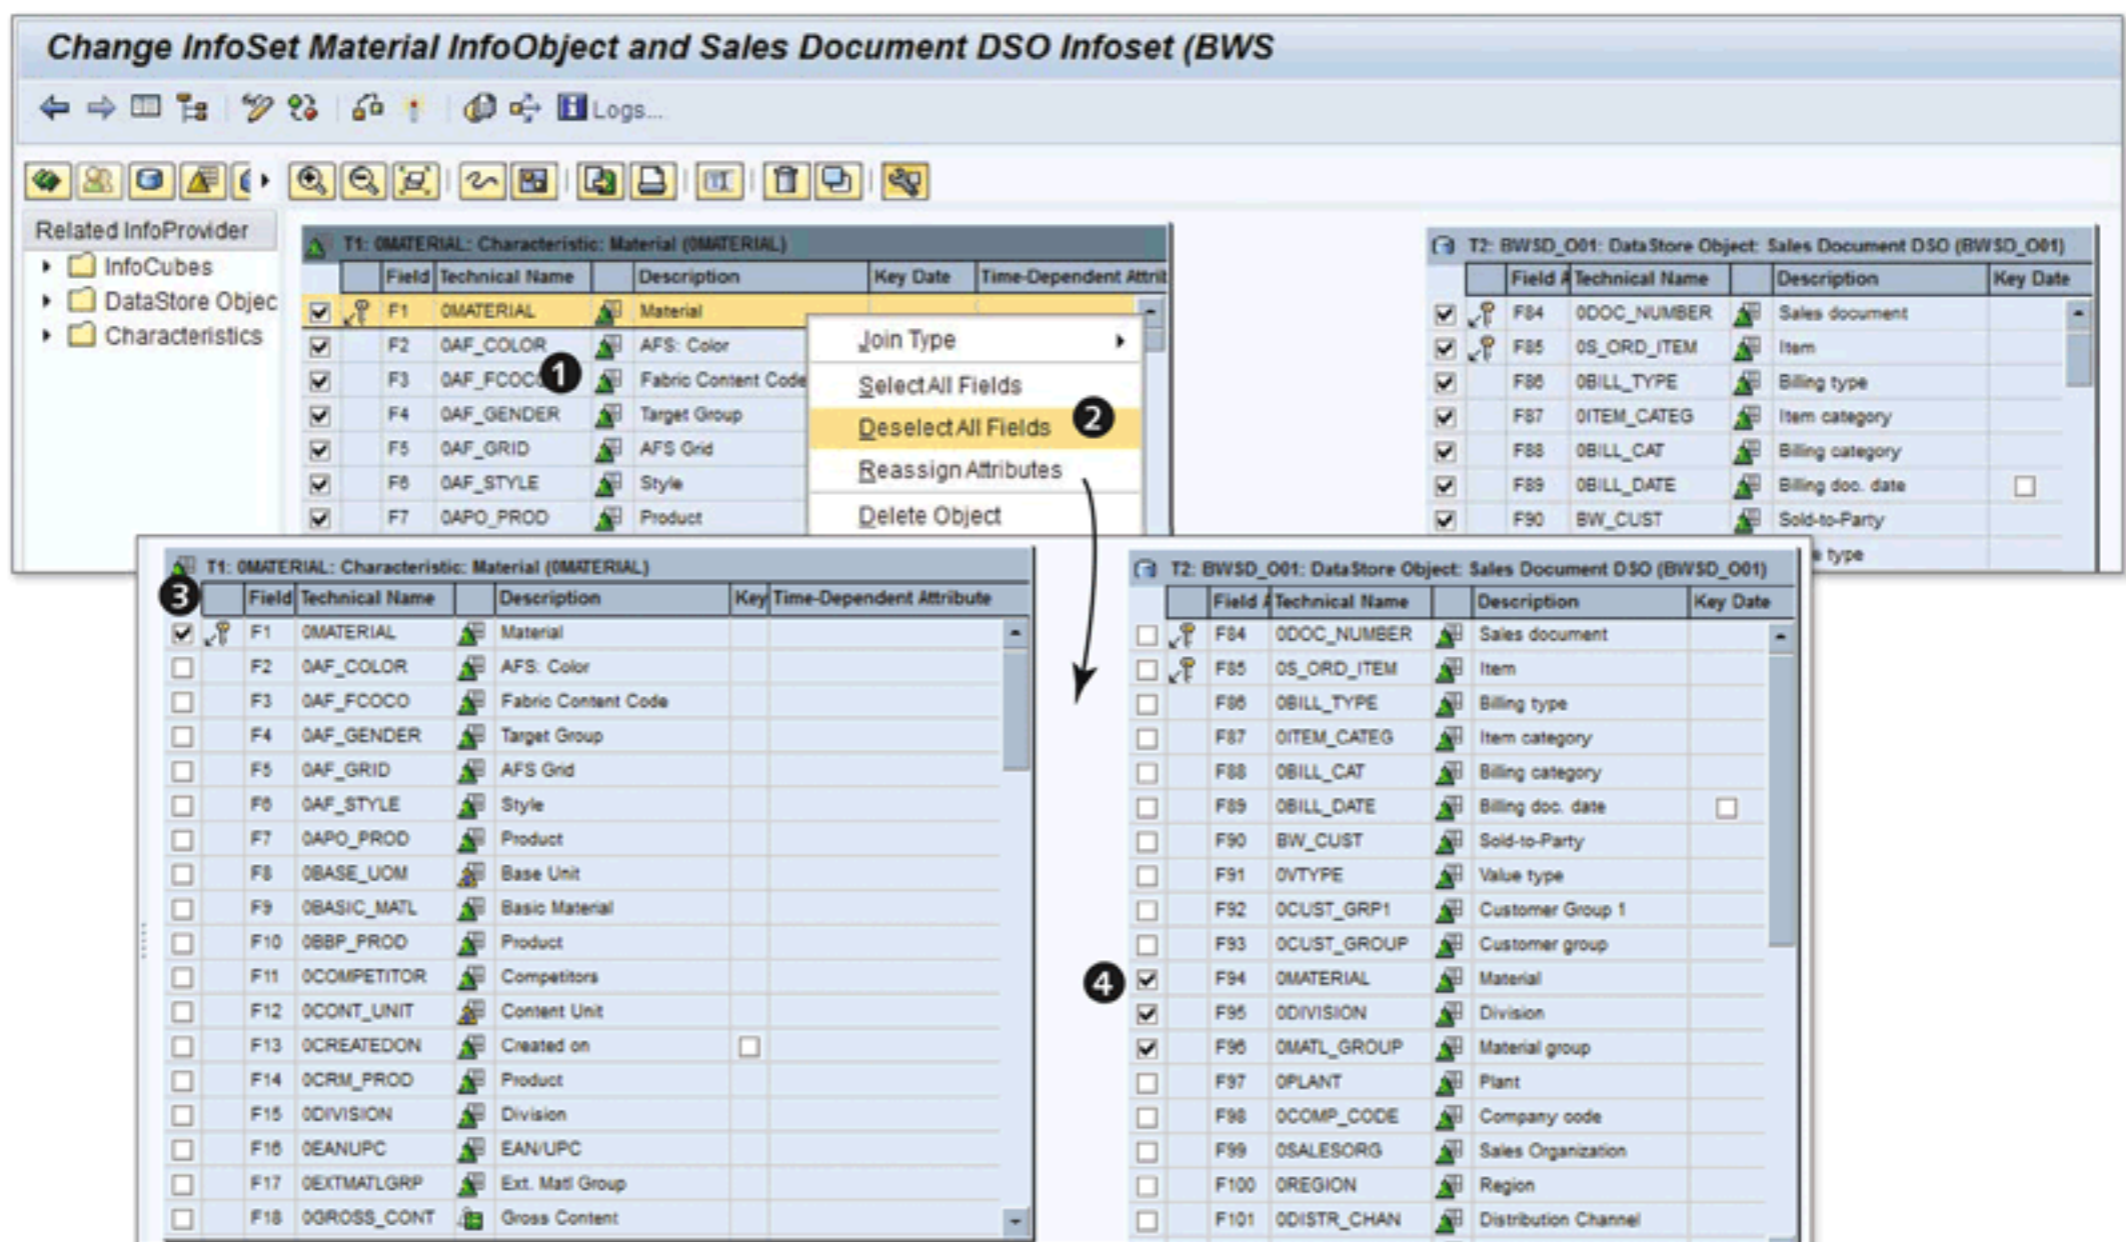

Figure 6.24 Selecting Required Fields
The second way is to deselect all of the checkboxes using one single click and include only those that are required. First, open the context menu by right-clicking anywhere on the source object for which you want to deselect all of the fields. For example, we want to deselect all of the fields for the source object 0MATERIAL. Start the context menu by right-clicking somewhere near the spot shown in ❶ of Figure 6.24, and then select **DESELECT ALL FIELDS** (❷). You can perform similar steps on the source object BWSD_001 and deselect all of the fields of DSO BWSD_001.